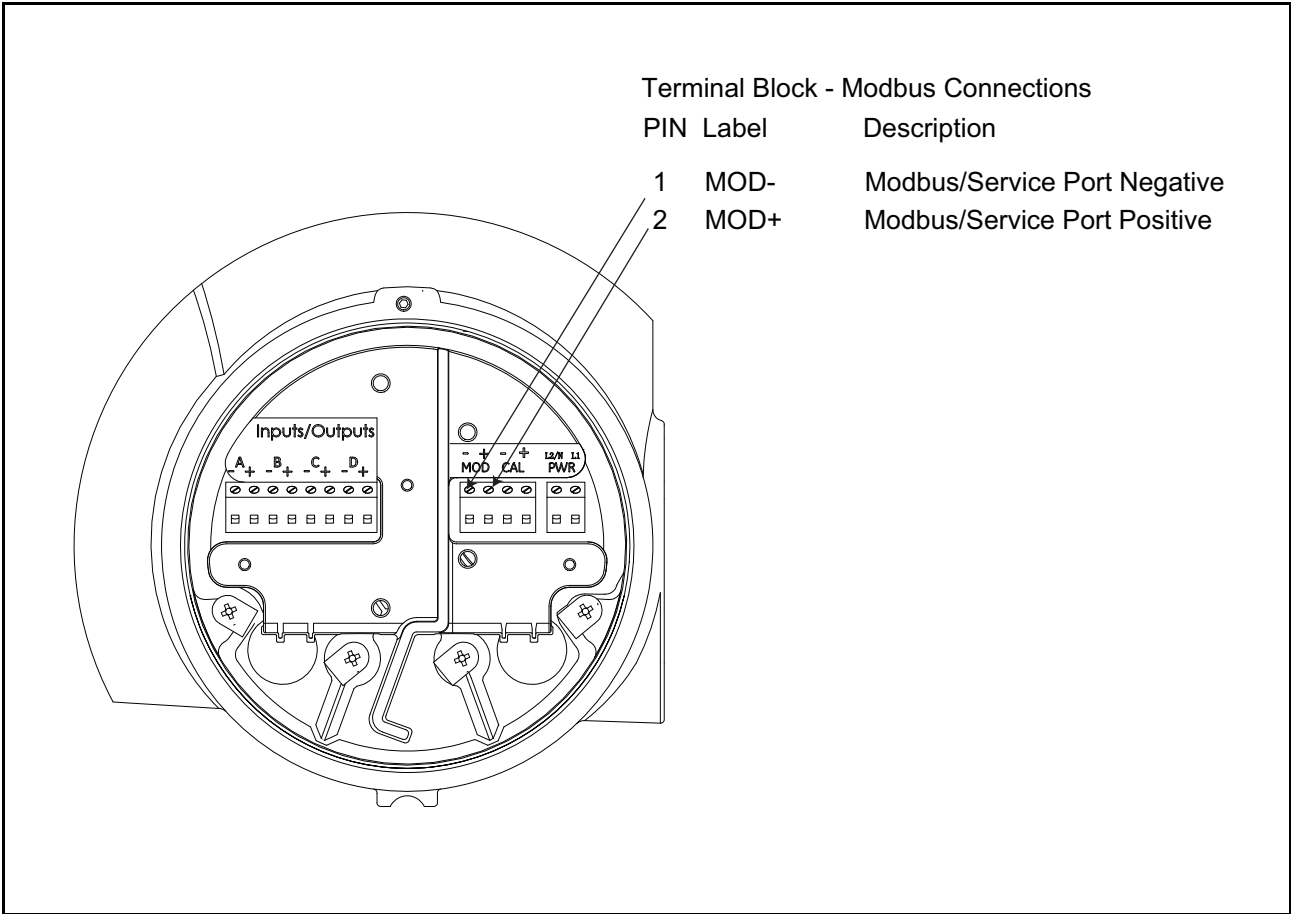

Figure 13: Modbus Connections
- 3. Feed one end of the cable through the conduit hole, wire it as shown in Figure 13 below.